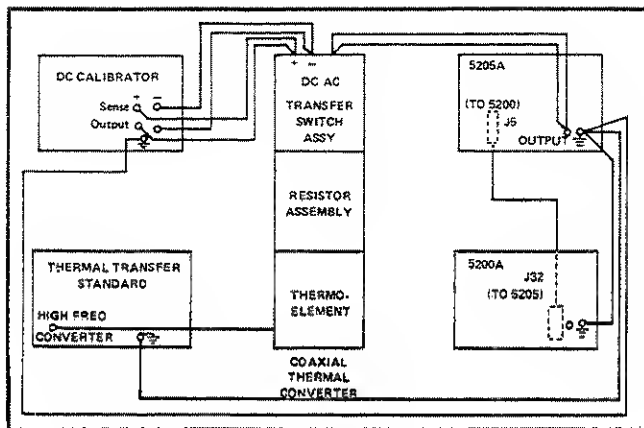

Figure 4-3. CALIBRATOR MODE CONNECTIONS
- c. Connect the test equipment as shown in Figure 4-3.